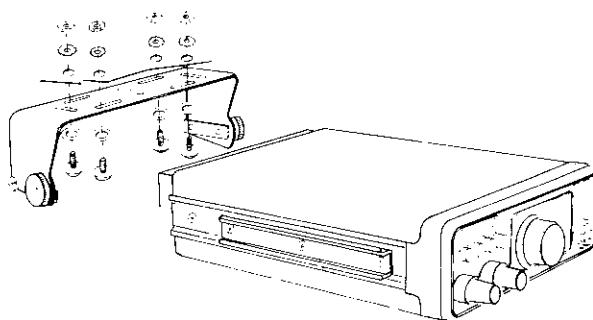

Figure 4A
1. Use the universal mounting bracket as a template to locate the mounting holes. Use a 3/16" diameter drill for these holes and allow clearance for the transceiver, its controls, and connecting cables. Secure the mounting bracket with the screws, washers and nuts supplied, as shown in Figure 4A.